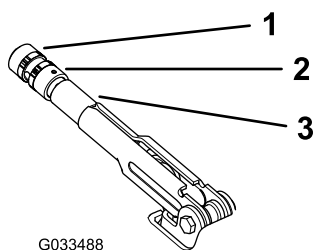

Figure 65
2. Loosen the set screw securing the knob to the parking-brake lever (Figure 65).